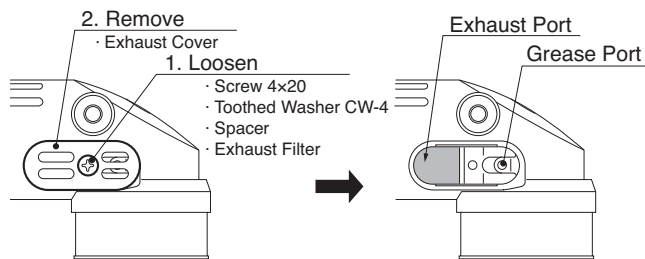

Fig. 8
4. For assembly, see Fig.8 and put back the parts in the reverse order of disassembly.